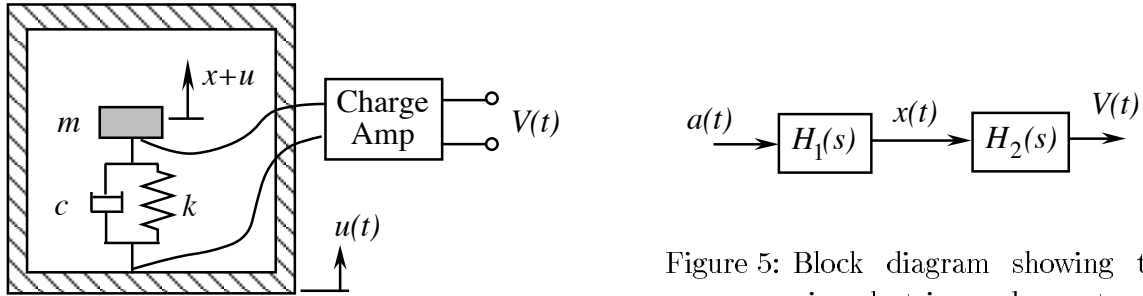

Figure 4: Piezoelectric accelerometer
4. This is an old exam problem that I gave in Spring Quarter of 2008. Engineer Y is designing a piezoelectric accelerometer; see Fig. 4. The accelerometer is a spring-mass-damper system, where m is a proof mass and the spring and damper represent piezoelectric materials. When the rigid housing moves with an input displacement $u(t)$, the piezoelectric material deforms